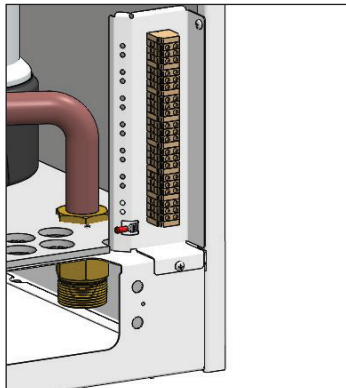

Fig. 21 - Terminal Strip Location
*The low voltage terminals are located at the bottom of the ACVMax control module. The line voltage terminals are located in the lower right corner as shown in Fig. 21 below.*
1. Connect a dedicated 120 VAC/15A service to the line voltage terminals located internally in the lower right corner, as shown in *Fig. 21 below*.
2. Connect the CH circulator wiring to the line voltage terminals located internally in the lower right corner, as shown in *Fig. 21 on the left*. This circulator is typically used to supply heat to the central/space heating loop.
3. Connect the DHW circulator wiring to the line voltage terminals located internally in the lower right corner, as shown in *Fig. 21 on the left*. This circulator is typically used to supply heat to an indirect hot water heater.
4. Connect the P3 circulator wiring to the line voltage terminals located internally in the lower right corner, as shown in *Fig. 21 on the left*. This circulator is typically used to circulate water through the PRESTIGE Solo in primary/secondary piped systems.
5. Connect the P4 circulator wiring to the line voltage terminals located internally in the lower right corner, as shown in *Fig. 21 on the left*. This circulator is typically used as a dedicated circulator to a second space heating zone.
1. Connect the external monitoring device to the line voltage terminals located internally in the lower right corner, as shown in *Fig. 21 on page 33*.